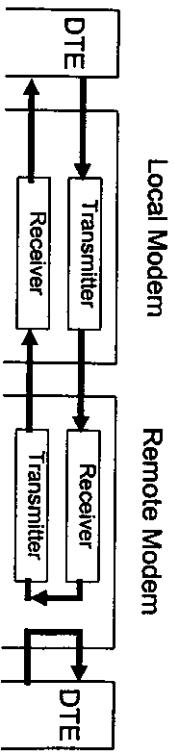

Figure 17. Remote Digital Loopback Test
- **Remote Digital Loopback (RDL) Test** - This test checks the interface and connection of the local modem with its DTE, the local and remote modems themselves (Figure 17). The remote modem returns data received from the line and executes a Local Digital Loopback to the remote DTE.